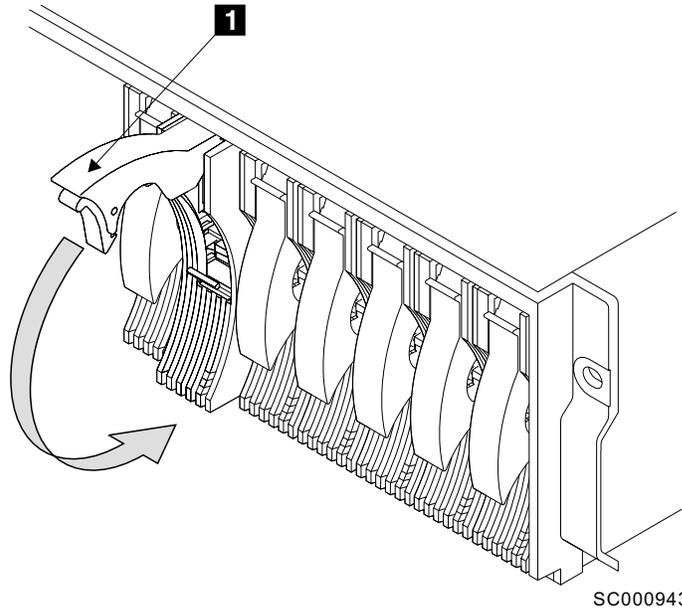

Figure 47. Closing the handle
5. While continuing to push the disk drive module into the slot, slowly close the handle **1** until it stops with a click. See Figure 47. This action pushes the module fully home.